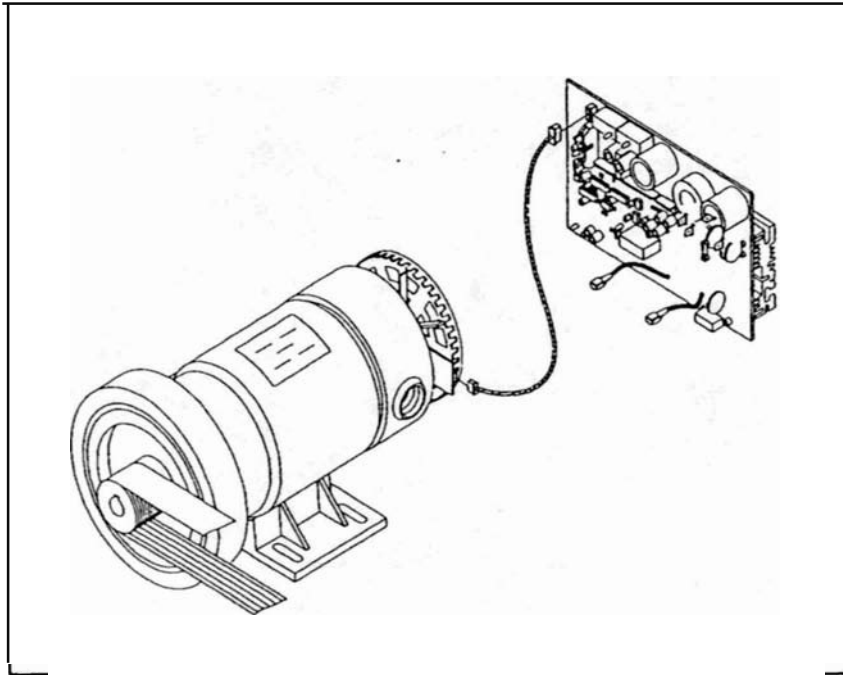
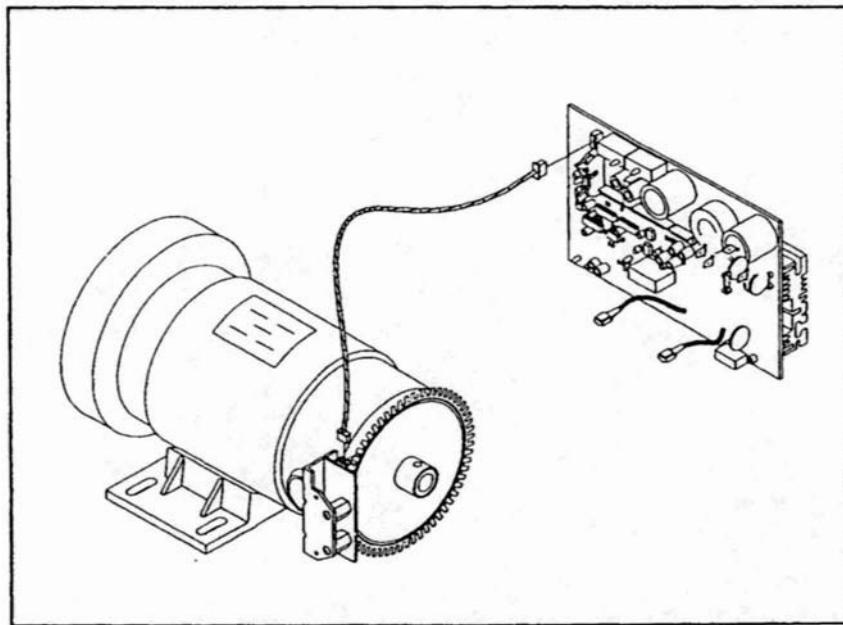

Fig.1
Fig.2
1. Disconnect the 4 pin cable from the optical switch to the drive board and replace a new one. (see Fig.1 or Fig.2)